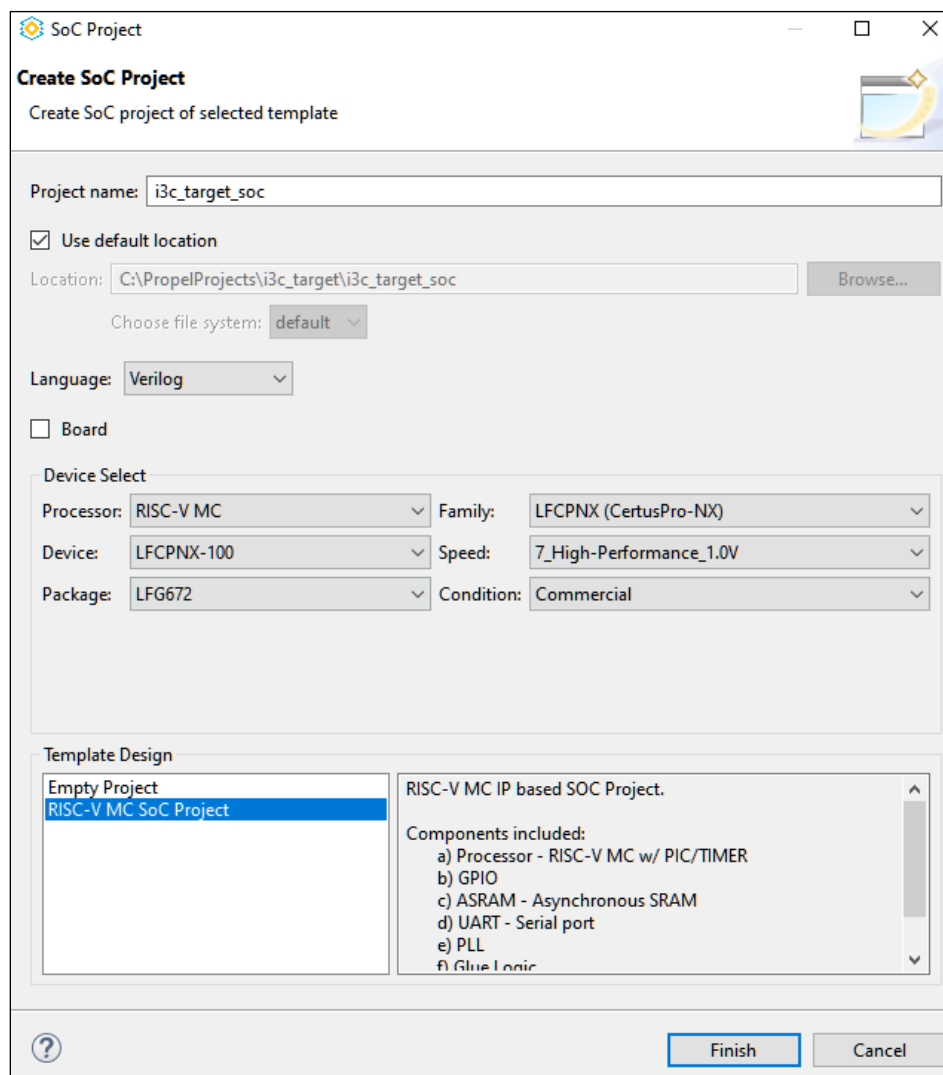

Figure 6.4. Create SoC Project
- In **Device Select** section, indicate the correct details of the device or board that you are using. In Figure 6.4, device is set to LFCPNX-100-8LFG672C since CertusPro-NX Evaluation Board is used in the hardware testing.